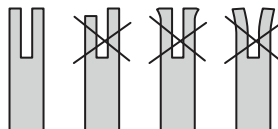

Fig. 49
- > Check the guide bar 'rail' for wear: Hold a ruler (straight edge) against the side of the guide bar and 'cutter side plates'. If there is a gap between the ruler and guide bar the guide bar 'rail' is normal. If there is no gap (ruler flush against the side of the guide bar) the guide bar 'rail' is worn and needs to be replaced with a new one of the same type (Fig. 49).